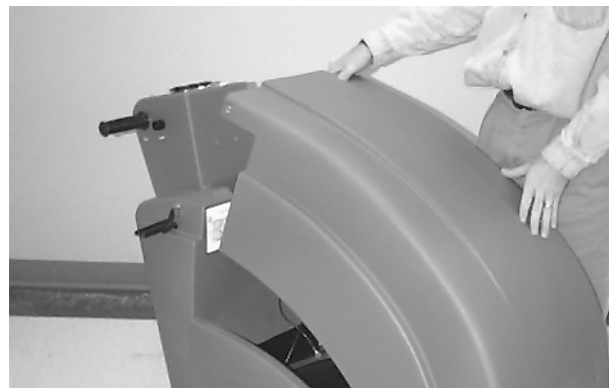

FIG. 2
3. Unlatch battery hood and open battery compartment. Remove loose battery cables (Figure 2).